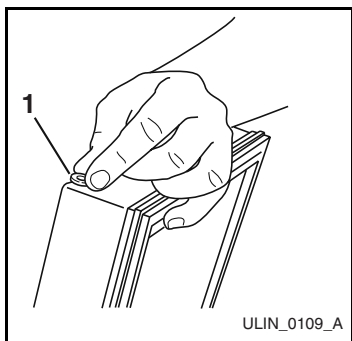

Figure 35
9. Relocate plastic spacer/bushing (**Figure 35**) on bottom of door to the opposite side. Clean out bushing hole in door bottom if necessary.